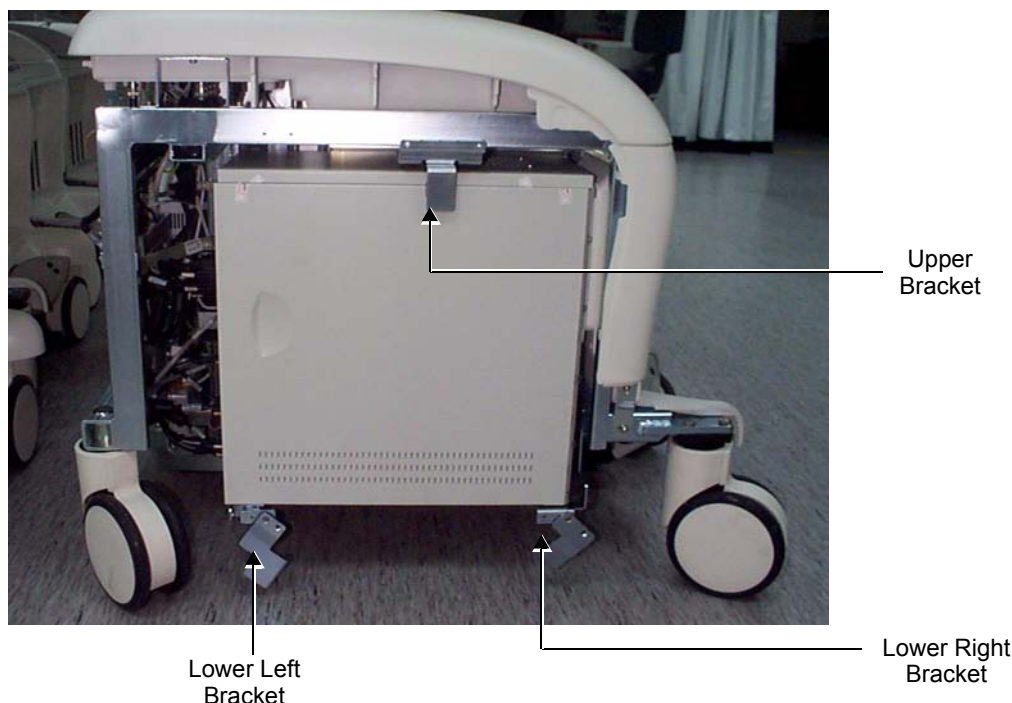

Figure 8-41 BEP - Position of Brackets on BEP2 Models
- a.) Remove the two screws of *upper* BEP bracket, see Figure 8-41 on page 8-49.
- b.) Remove the screws of the *lower left* and *right* BEP brackets (Figure 8-41).